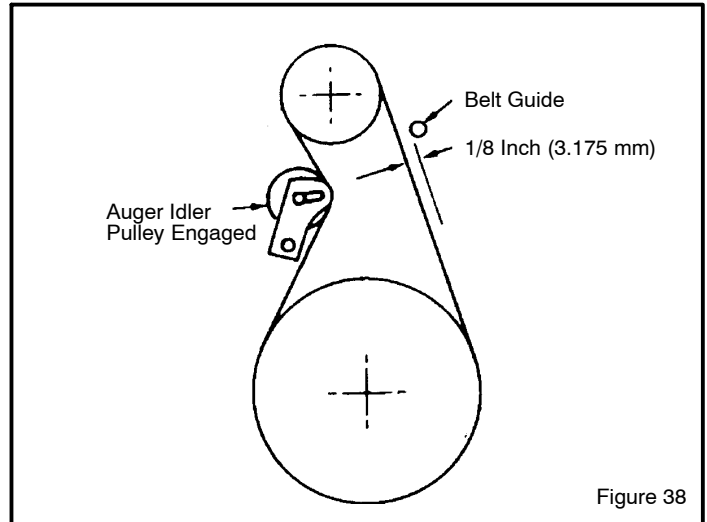

Figure 38
3. Measure the distance between the belt guide and belt. The distance should be 1/8 inch (3.175 mm) for guide. See Figure 38.